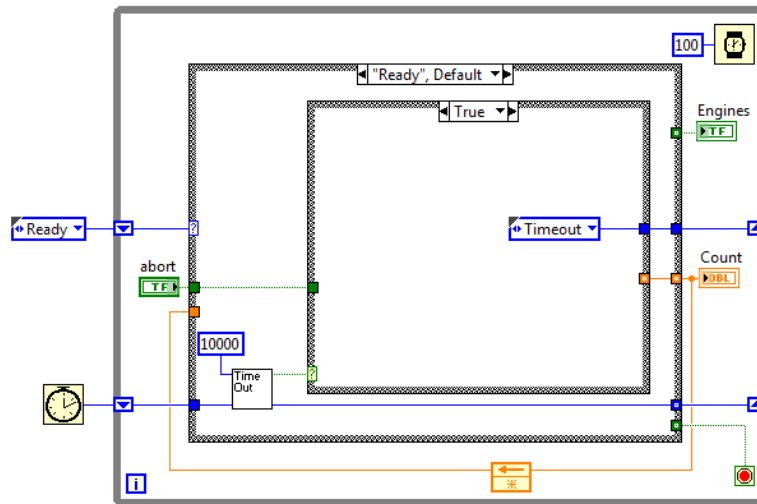

FIGURE 2.12 The Ready state with a timeout test added.
3. Modify your Ready state to match Fig. 2.12. There is a new case structure that encloses the one that reads the Abort button. I'm showing the other case (which you should make sure is the True case!). The False case contains the code you wrote before. Note the use of the **Use Default If Unwired** tunnel on the way out of the case structure.